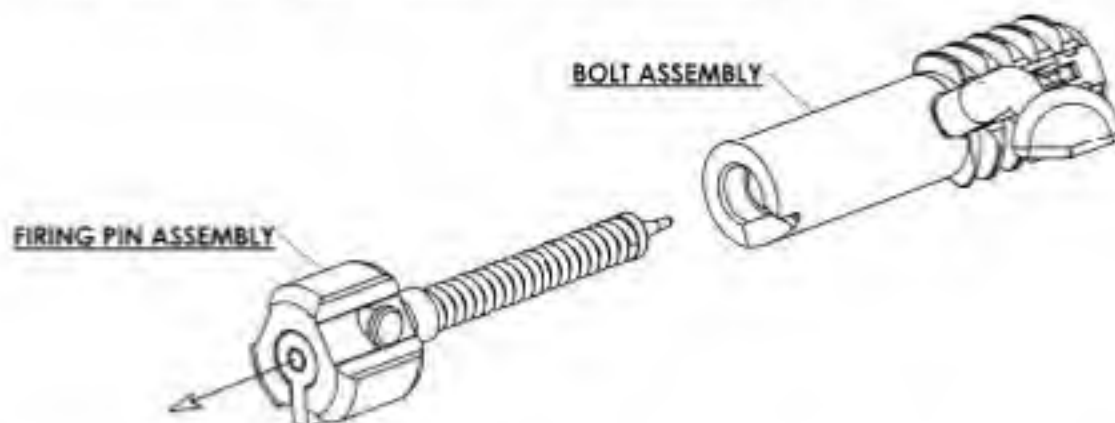

Figure 11.
3. Separate the firing pin assembly from the bolt assembly. (Figure 11.)